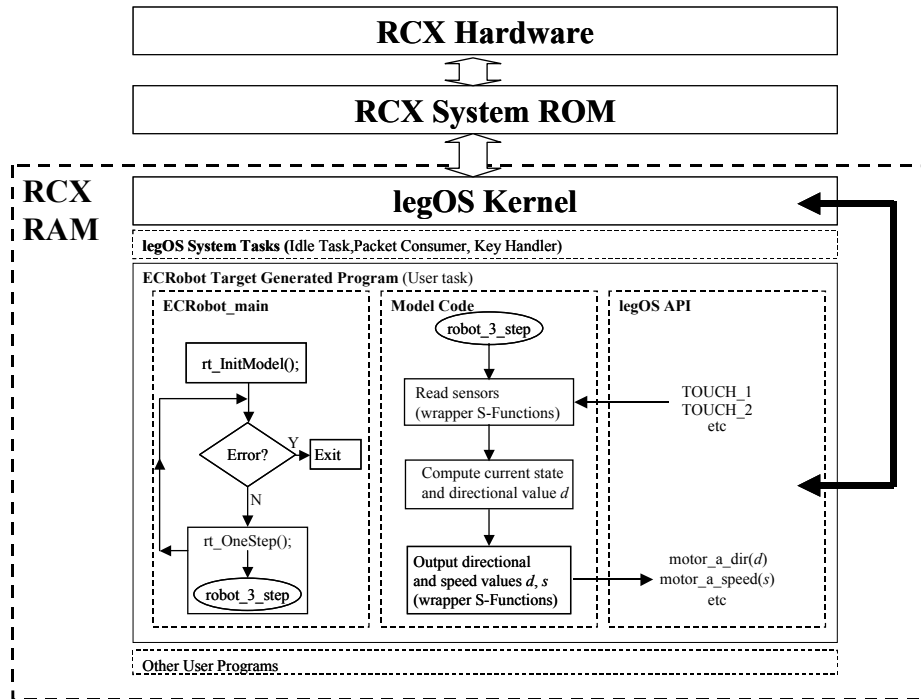

Figure 1-3: Generated Program (robot3) Running in RCX Environment
Figure 1-3 shows the structure of an ECRobot target generated program when loaded and running on the RCX.
- User programs. User programs are relocatable code modules, whose address is determined when they are loaded by the packet handler. Figure 1-3 shows the ECRobot target example program, `robot3`, residing in RAM as the first user program, above the legOS system tasks.
The generated `robot3` program is a single-rate, single-tasking program that runs as a task under legOS. The components of the program, laid out schematically in Figure 1-3, are: